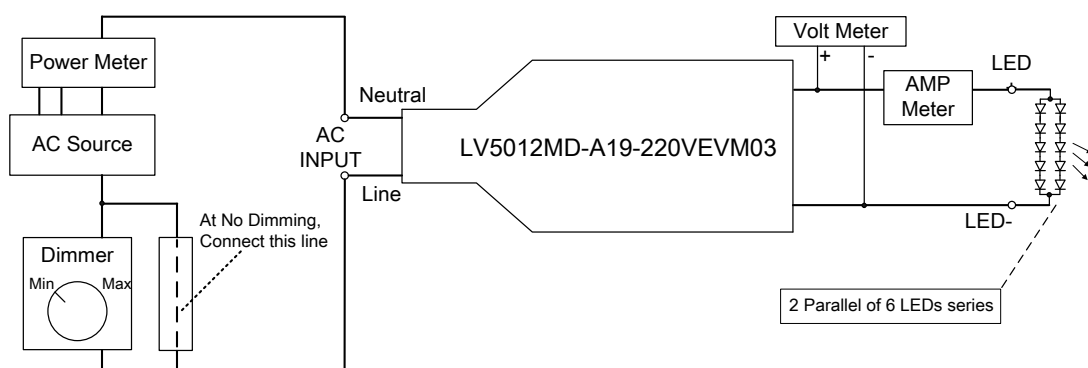

Figure4. LV5012MD-A19-220VEVM03 Recommended Test Set Up
1. Connect LV5012MD-A19-220VEVM like upper Figure4. An external LED load must be used to start up the EVM.